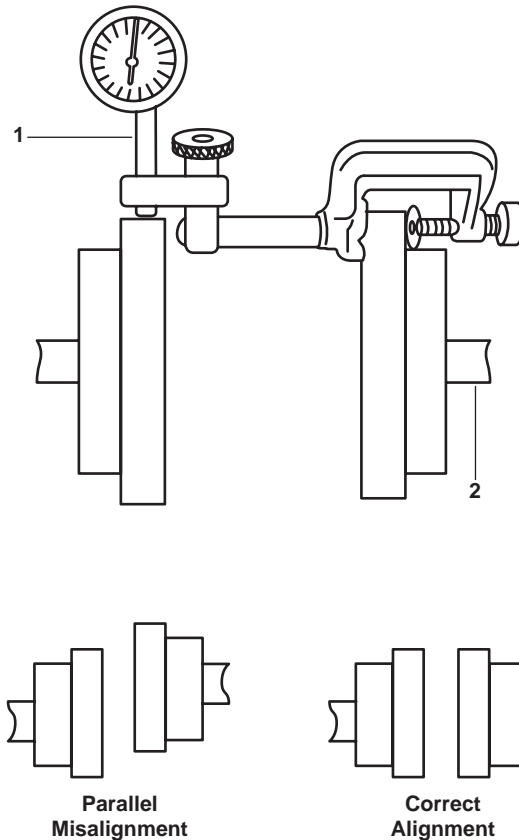

Figure 3. Dial Indicator/Parallel Alignment Depiction
13. Reposition the dial indicator (figure 3, item 1) as shown in figure 3 to check the parallel alignment.
15. Slowly rotate the pump shaft (figure 3, item 2) while noting the dial indicator (figure 3, item 1) reading.